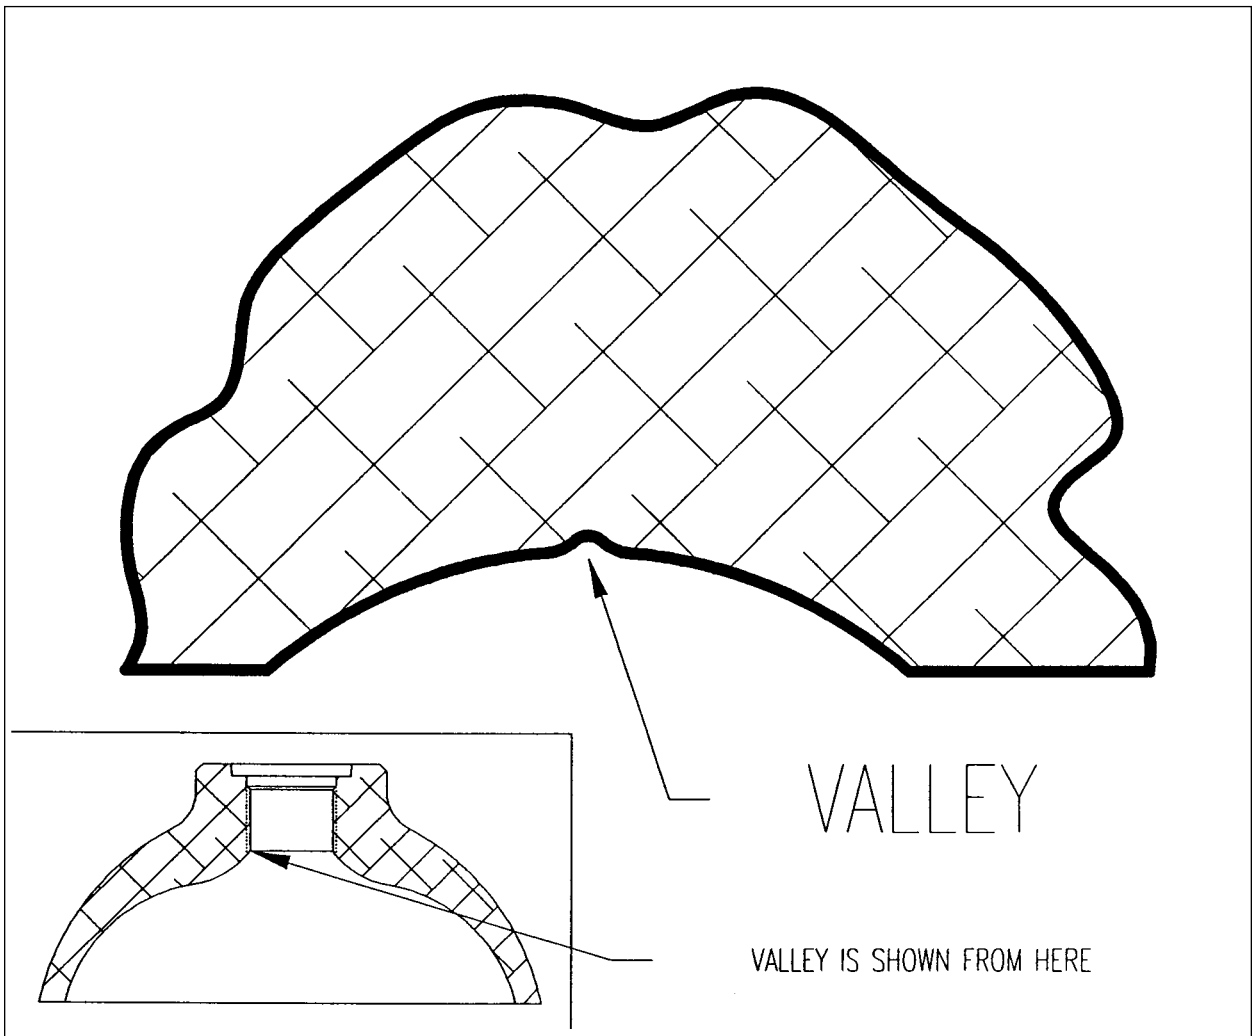

FIGURE 7.
**valley:** The place between two metal flows which meet in such a manner as to create a shallow and smooth elongated depression. The valley will always be along the length of the cylinder and usually in the crown area. See FIGURE 7 and PHOTOS 16 and 17. Compare this to **fold**.
In FIGURE 7, the valley is shown from a cross sectional view of the bottom of the threaded area. The valley has a rounded effect in the metal flow. See PHOTO 16 and 17.